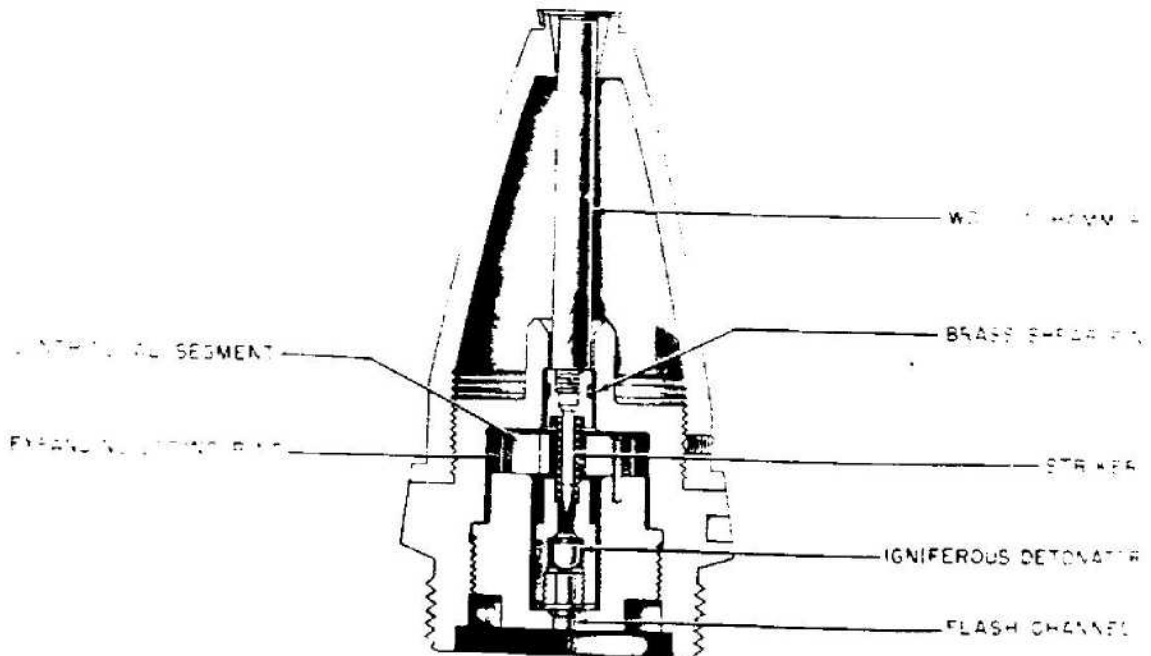

Figure 570—E. K. Zdr. C/28
**DESCRIPTION:** This fuze is used over a gaine and is designed on the combined direct and graze action principles for sensitivity and instantaneous functioning. (See fig. 570.)